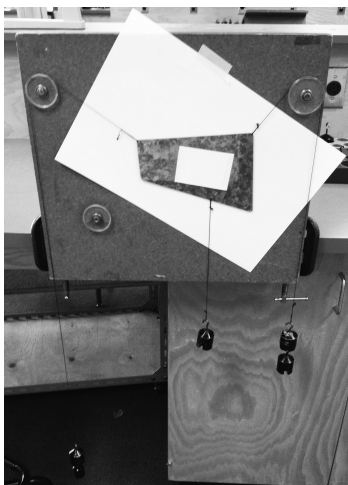

Figure 2: Vertical force board
5. Set up the force board as directed by your instructor (Figure 2), clamping it securely to the bench. Using the strings and the masses supplied, set up a system of three forces so that the plate is suspended in equilibrium near the centre of the force board. Attach the two *longer* strings OVER the top pulleys. Attach the *shorter* string to the bottom of the plate so it HANGS VERTICALLY (NOT over a pulley!) and is NOT below the center of gravity of the plate. Thread the strings through the holes and back upon themselves to secure them - DO NOT TIE KNOTS. Start with 200.g on the pulley strings & 100.g on the vertical string. Make certain all masses DO NOT touch the force board (i.e. they are free hanging) and that EACH string has AT LEAST 100.g. Add mass as needed to center the plate on the force board. AVOID USING MANY SMALL (<50.g) MASSES.